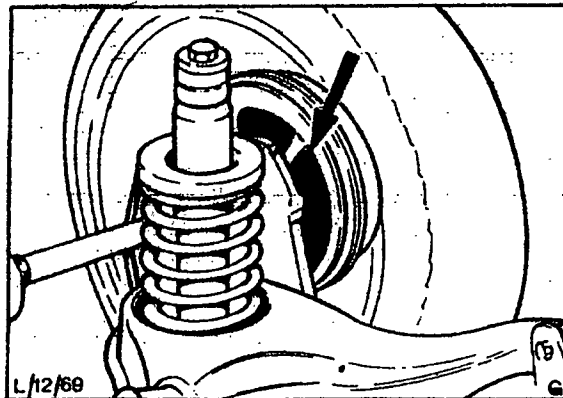

Fig.18. Rear brake shoe viewing aperture
1. Remove rubber plug from rear brake carrier plate, Fig.18. Aperture is adjacent to leading shoe which is subject to faster wear rate than trailing shoe.